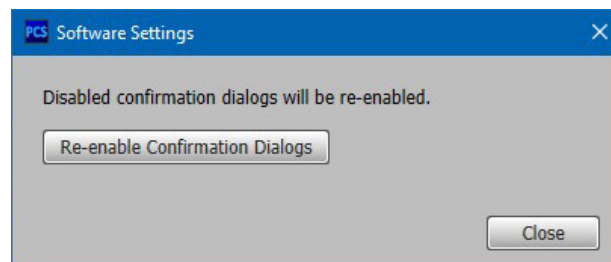

Figure 28. Software Settings Dialog Box
2. Click the **Re-enable Confirmation Dialogs** button (see figure 28, **1**). The dialog box closes and the reset is complete.